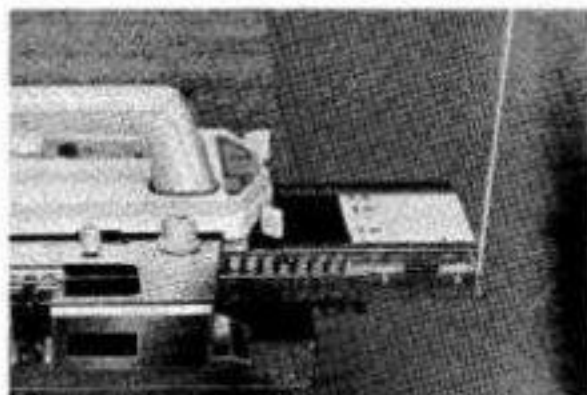

Fig.82 SCLs TO "KNIT" POSITION
- (c) With carriage on right, remove M.C. from carriage feeder, pull and place it at the right end of the needle bed. (Fig.82)